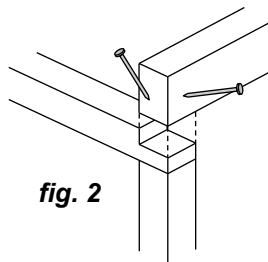

fig. 2
**Step 2:** Select Back and Front Base Plates 1.810m (Green), Front Top Plate 1.810m (Red) and Back Top Plate (70x45mm). With one End Frame lying on the ground, nail plates to frame, two 75mm nails per joint. Ensure Green joins to Green and Red joins to Red. See (**fig. 2**) for nailing detail on Top Back Plate (70x45mm).